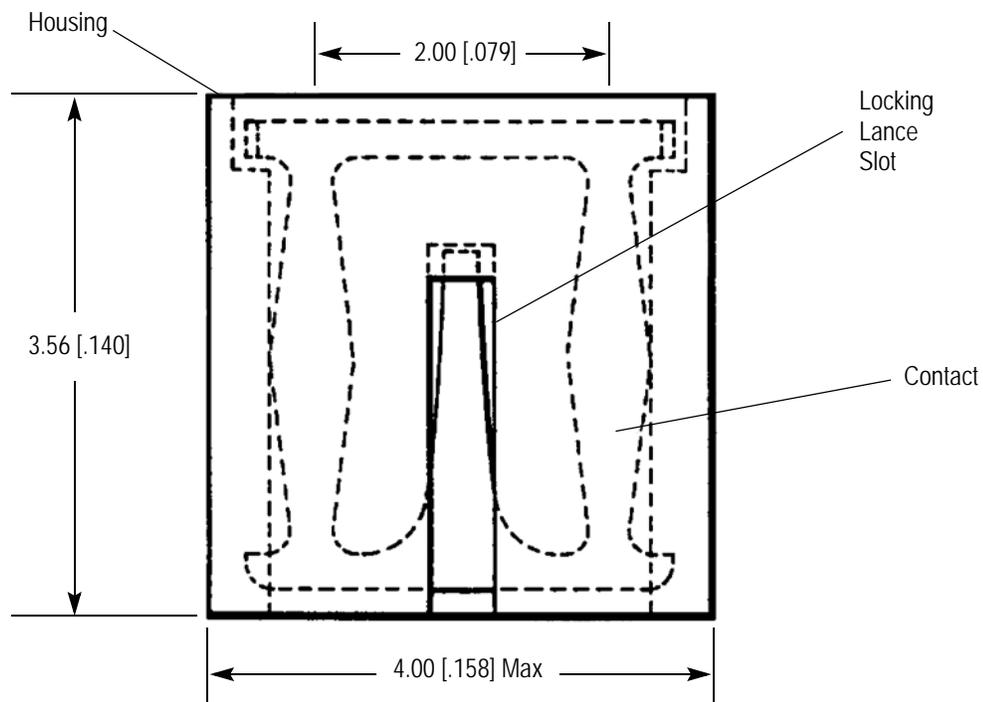

Figure 1
Figure 1 shows the product components and terms of their features. When corresponding with TE Connectivity personnel, use the terminology provided in this specification to facilitate your inquiries for information. Basic terms and features of this product are provided in Figure 1.
- Clarified dimensions in Figure 1.